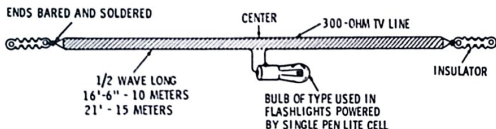

Fig. 6-19. Pickup antenna for adjusting reflector length of beam.
6. A fairly good job can be done tuning up the reflector simply by making its loading coil two turns larger than the radiator. However, you can get a bit better tune-up by making a half-wave dipole out of a scrap of 300-ohm TV feed line with a bulb hooked in the center (Fig. 6-19). Mount this pick-up antenna out in front of the radiator of the miniature beam and then adjust the reflector for maximum brilliance of the bulb on the pick-up antenna.